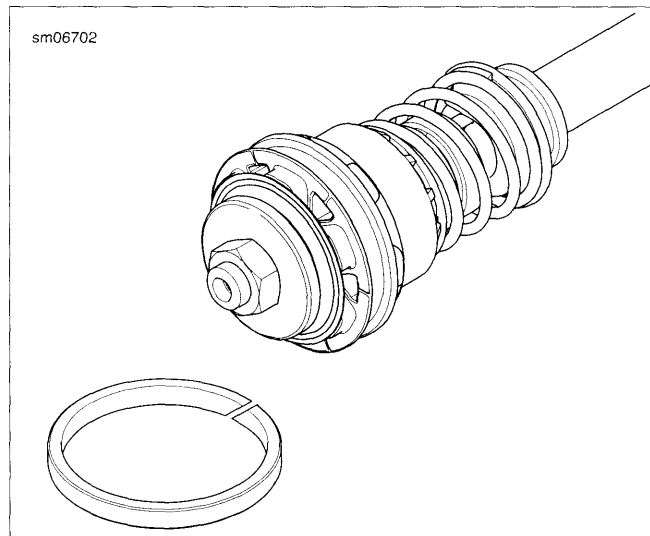

Figure 2-185. Fork Rod Piston and Ring
5. See Figure 2-185. Replace the fork piston ring.